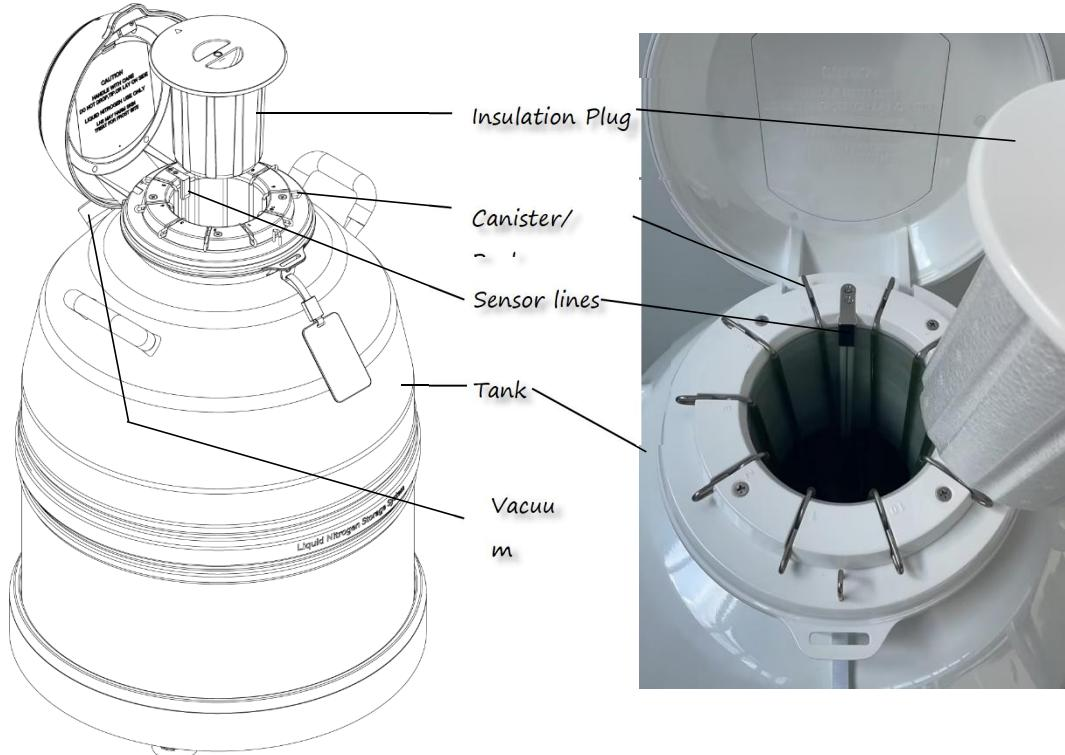

Figure 2-5 Tank and Accessories
**To eject the battery:** Before removing the battery, press the power on/off on the back of the Gelida 47 Lid to power off the device (Figure 2-5). Then open the lid, and can be removed by hand (Figure 2-12, Steps 1,2 and 3).